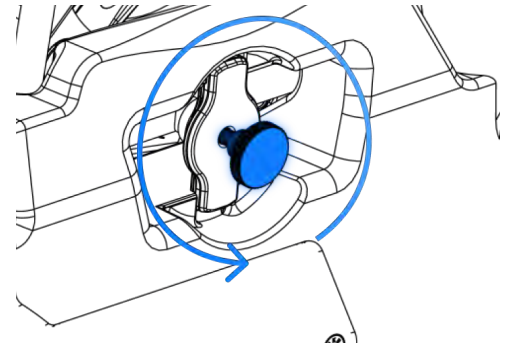

FIGURE 1.3
4. Unscrew the fuel tank clamp thumbscrew until it stops (audible clicks will be heard), then turn the quick release handle 90° (Figure 1.3)